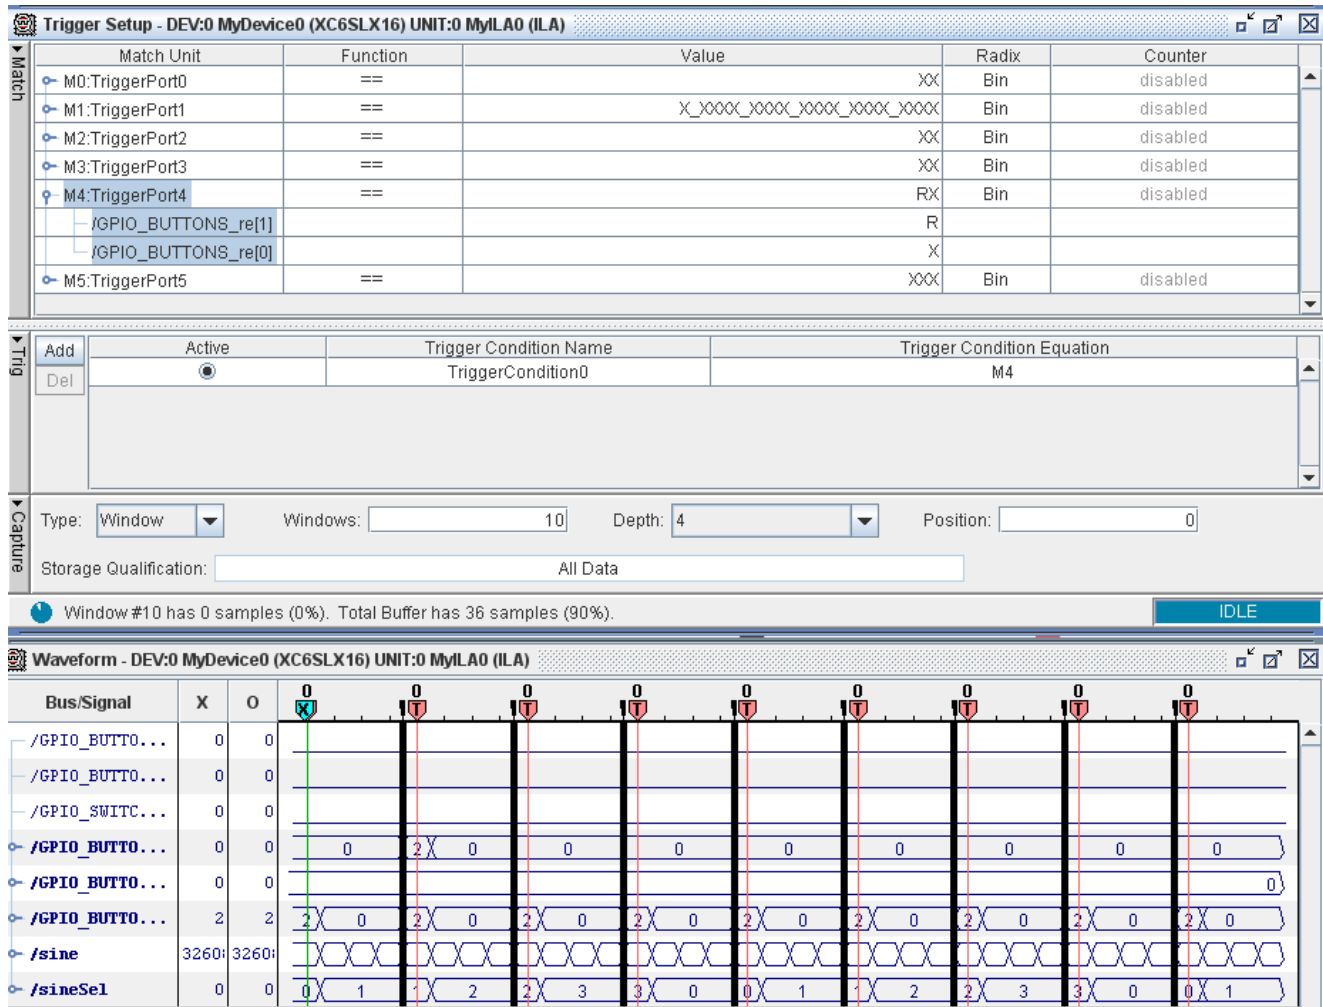

Figure 7: Sample View of Display Setting and State Machine Glitch
3. In the **Trigger Conditions** area of the **Trigger Setup** window, click inside the **Trigger Condition Equation** field. In the resulting dialog box, ensure that the appropriate match unit is enabled. You can tell that the correct match unit is enabled if it is highlighted in blue, as shown in Figure 7, page 17.
- In the **Capture** area of the **Trigger Setup** window, shown in Figure 7, change the settings as follows:
3. Push the *Sine Wave Sequencer* button on the SP601 board. Each button push generates one or more “windows” that show segments of time on the time axis of the waveform. Observe the number of windows captured in the status bar that appears just below the capture settings. (The status bar is shown in Figure 7, page 17.) If more than one window is captured with a single push of the button, you have determined that there is an issue on the GPIO_BUTTON[1] input. If only one window is captured, try again. You might have to push the button several times to reproduce this intermittent glitch. As soon as a single button push generates multiple windows, go on to the next step.